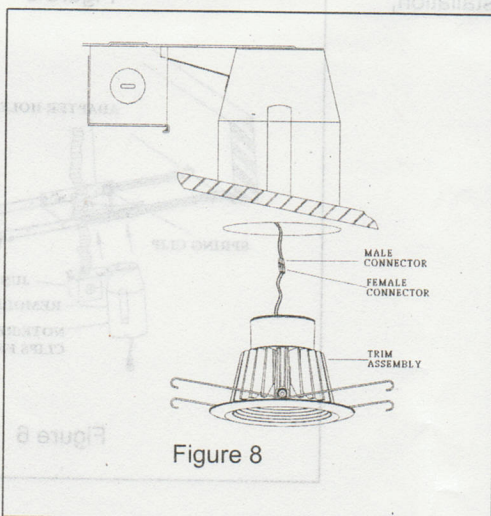

Figure 8
2. Attach male connector from installed housing in ceiling to female connector from LED trim. (Figure 8)